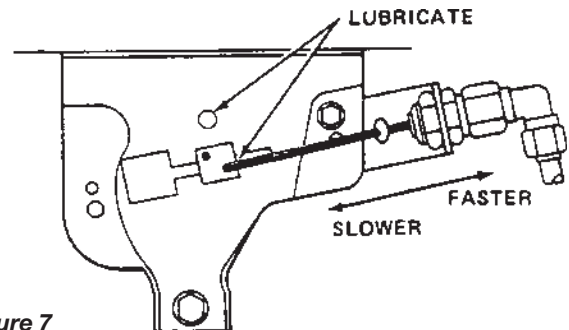

Figure 7
**If the compressor stalls frequently during acceleration from idle speed, richen mixture slightly (by turning the needle valve out slowly). If this adjustment does not eliminate the stalls, adjust the idle speed to a slightly higher level by loosening the two jam nuts on the throttle control cylinder, readjusting its position and retightening the nuts. See figure 7. Proper idle speed is between 2400 and 2600 RPM.**
**If the throttle mechanism fails to operate smoothly, preventing the engine from returning to full throttle speed when tank pressure falls below 90 psig, it may be necessary to lubricate it with a light lubricating oil. See figure 7.**